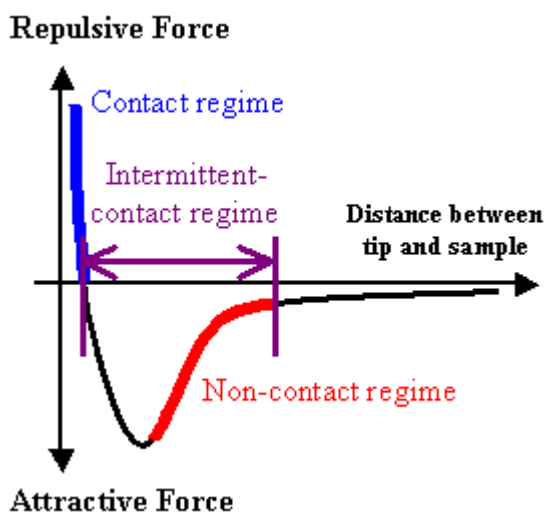

Figure 0.1 (Intermolecular force-distance curve)
ACAFM is an intermittent contact mode of atomic force microscopy (AFM) in which the cantilever is driven by an alternating current (AC). The AC Mode option, added to the PicoLE system, allows the user to image softer or more fragile samples than is possible with normal contact mode AFM. The Molecular Imaging MAC Mode Controller can operate in two different modes; magnetic AC (MAC) and acoustic AC (AAC). In MAC mode, the alternating current running through a coil creates an alternating magnetic field. The field drives the cantilever via a magnetic coating on the back of the cantilever. Typical MAC frequencies are on the order of 80kHz. In AAC mode, a voltage that oscillates on the order of 300kHz drives a piezo crystal in the scanner nose. The drive frequency in AAC mode is based on the natural resonant frequency of the cantilever and, as such, may vary from cantilever to cantilever. In MAC Mode, the cantilever can be used at frequencies below that of resonance. At the drive frequency, the tip moves up and down with a measurable amplitude when it is unaffected by (distant from) the sample surface. The system detects changes in the amplitude first, as the tip approaches the surface and then, with greater pressure, as the tip reaches the surface and atomic repulsion effects become dominant. An intermolecular force versus distance curve is shown in Figure 0.1 below.